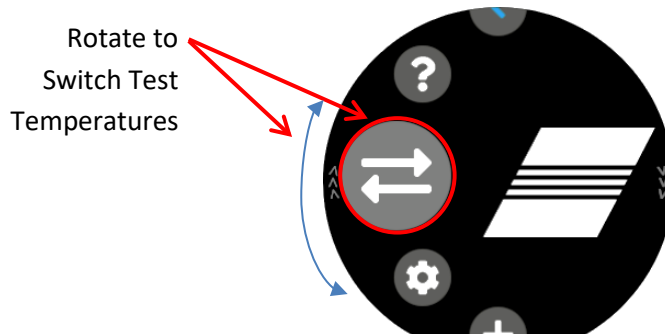

Figure 34: Switch Test Temperatures Button on Main Menu
25. Rotate the Base Unit controller and scroll to the **Switch Test Temperatures** button. Press to select. See Figure 34.